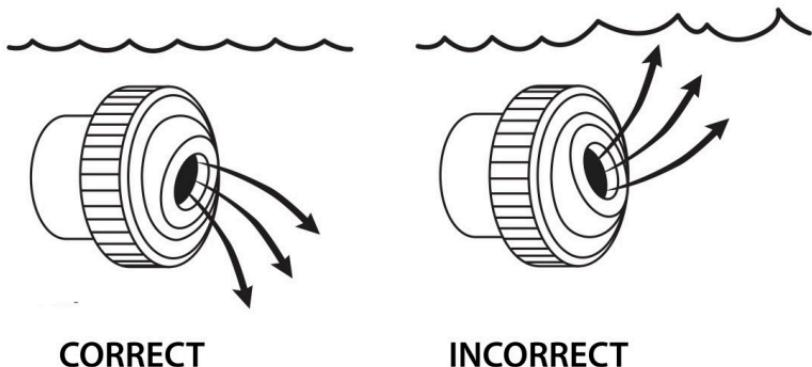

Figure 7
**STEP 8:** Turn the return jets built into inside pool walls down toward the bottom of the pool, using **Figure 7** as a guide. This will both help conserve the chemical consumption of your pool and allow the pool alarm to work efficiently. If water features such as waterfalls, automatic cleaners, or pump cycling cause false alarms, turn the water feature off when the pool is not in use. Contact the manufacturer with any additional questions.